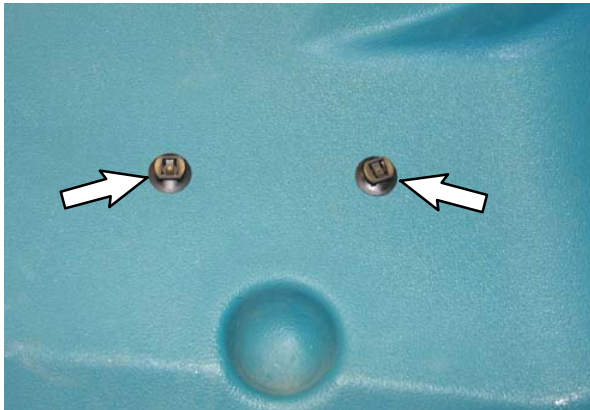
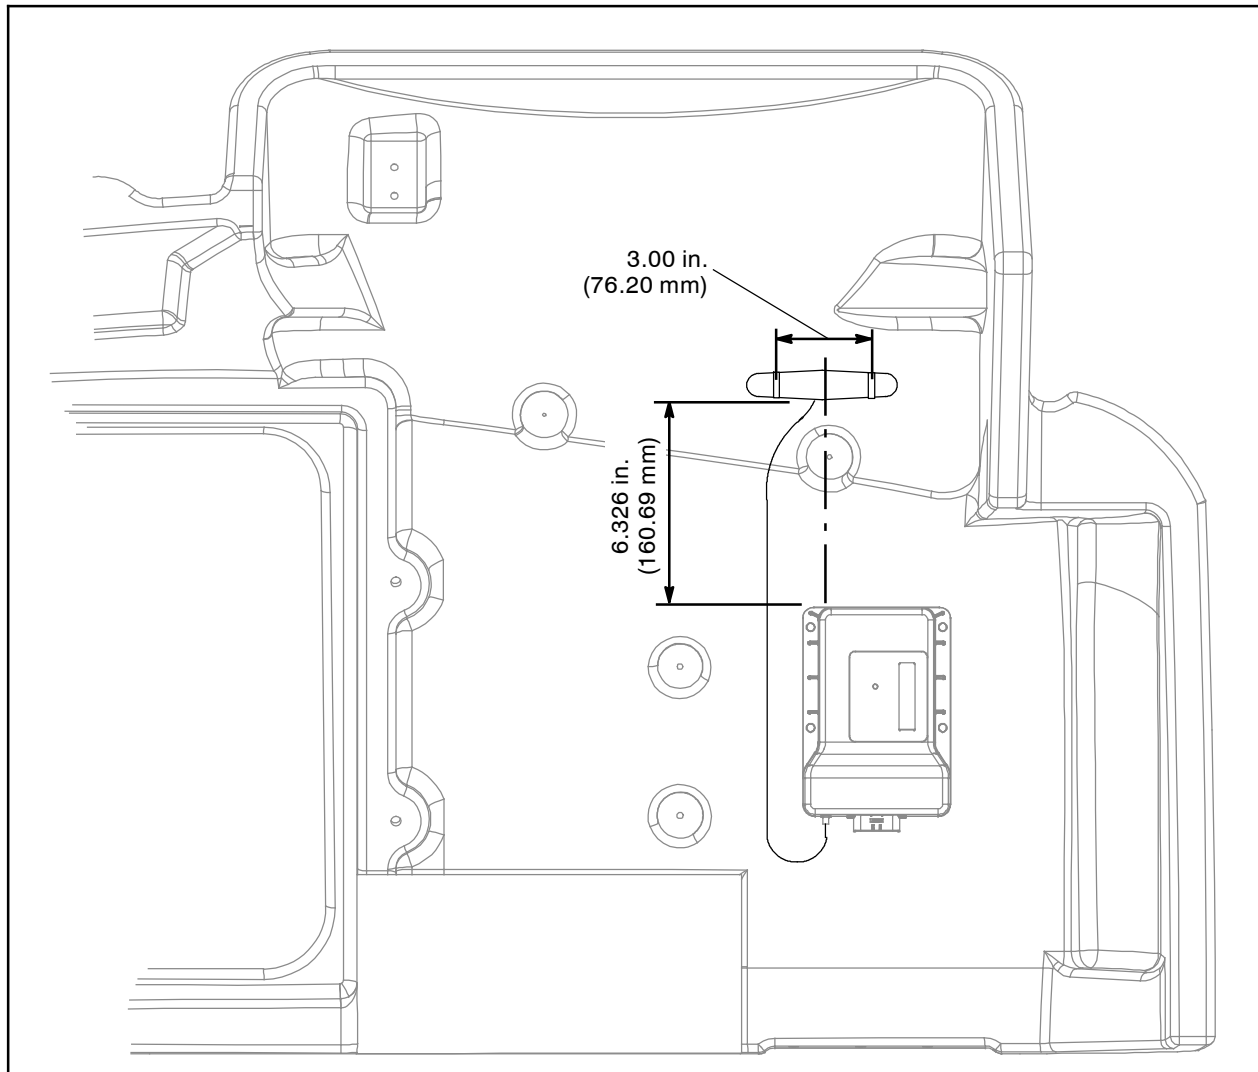

FIG. 9
FIG. 10
8. Drill two 0.25 in. (6.35 mm) holes into the inner surface of the front shroud. **Do Not** drill into the front surface of the front shroud. (Fig. 9 / Fig. 10)
9. Install two wire tie clips (5) for mounting the antenna (7) to the front shroud. (Fig. 9 / Fig. 10)